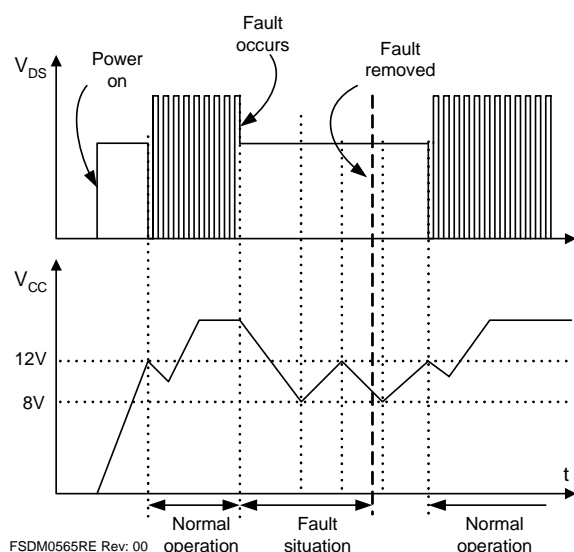

Figure 19. Auto Restart Operation
3. Protection Circuit: The FSDM0x65RE has several self-protective functions, such as overload protection (OLP), over-voltage protection (OVP), and thermal shutdown (TSD). Because these protection circuits are fully integrated into the IC without external components, the reliability is improved without increasing cost. Once a fault condition occurs, switching is terminated and the SenseFET remains off, which causes V_{CC} to fall. When V_{CC} reaches the UVLO stop voltage of 8V, the protection is reset and the internal high-voltage current source charges the V_{CC} capacitor via the V_{str} pin. When V_{CC} reaches the UVLO start voltage of 12V, the FSDM0x65RE resumes normal operation. In this manner, the auto-restart can alternately enable and disable the switching of the power SenseFET until the fault condition is eliminated (see Figure 19).